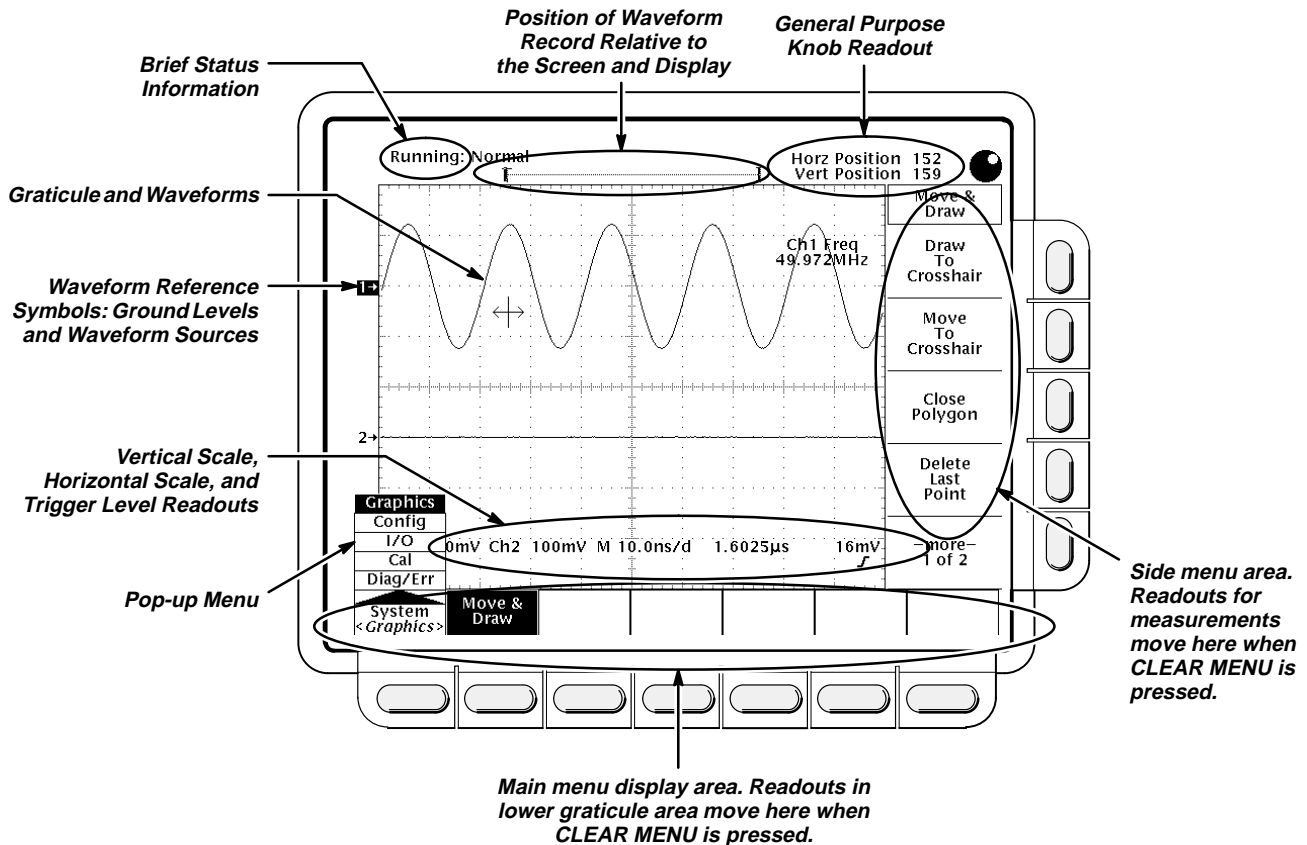

Figure 1-1: Map of Display Functions
- Refer to Figure 1-1: “Main menu” refers to the menu buttons under the display; “side menu” refers to the menu that labels the five buttons to the right of the display. “Pop-up menu” refers to a menu that pops up when a main-menu button is pressed.
- The vertical scale readout for the channel under test shows a setting of either 50 mV or 100 mV, and a square-wave signal about 350 mV to 700 mV in amplitude is on-screen. (See Figure 1-1 on page 1-3 to locate the readout.)